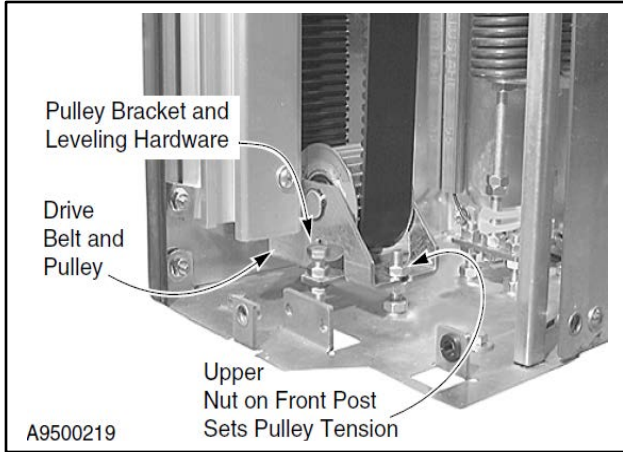

Figure 41
5. The front post is used to set the tension on the drive belt. Thread the upper nut down against the pulley bracket until the belt is properly tensioned. Tighten the lower nut against the bottom of the pulley to lock in the tension. (See Figure 41.)
7. Level pulley assembly, as required, and tighten hardware. (See Figure 41.)